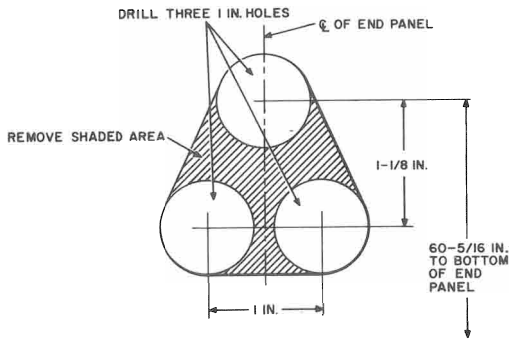

Fig. 7—Hole for 2D Fixture
- (2) For 2D fixture, follow instructions in Fig. 7.
- (3) Make connections to the booth terminal strip above the ceiling.